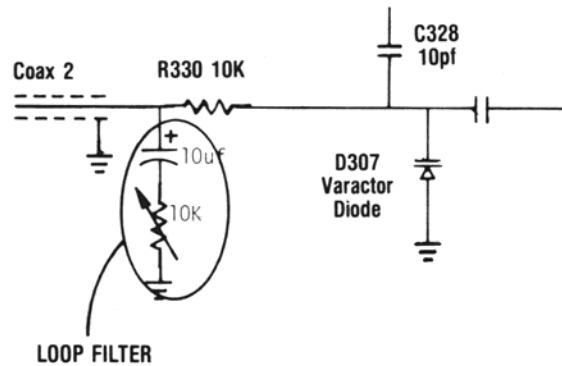

Fig. 14 — Schematic Diagram of modified SM5104 chassis
9. Install the variable loop filter as shown in Figs. 14 and 15. **(See page 6)**